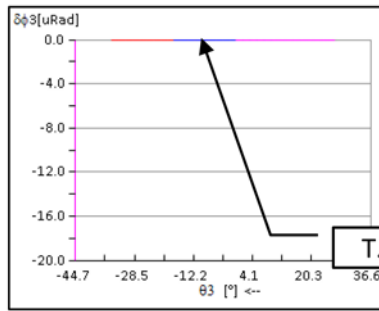
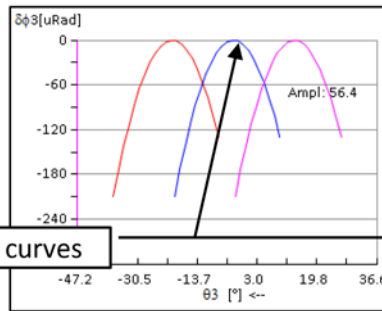
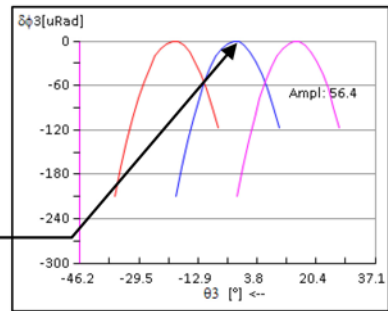

Figure 7 TE—basic gear set.
Figure 8 With modified roll.
Figure 9 0.2 mm C.D. change.
By definition, spurged gears are fully conjugate at mid-face. This means that in the absence of modifications to the profiles of the cutter blades, TE will be null. This is shown (Fig. 7), where three TE curves (blue, red and pink lines) are shown on the 0.0 line.
TE is desired in gear sets in order 1) to provide smooth motion transfer between meshing tooth pairs when subject to positional errors, and 2) to avoid excessive stresses at contact entry and exit. TE can be introduced in a number of ways. For example: 1) using blade deviations such as TopRem; 2) using circular cutter edges, or 3) using higher order changes, such as modified roll Eq. (7), on a CNC-controlled machine. The latter is the preferred method, as standard cutters can be used. Figure 8 shows the TE for the same gear set as that in Figure 7, but 2nd-order modified roll has been applied to provide relief at contact entry and exit.
Insensitivity to center distance change is a prime characteristic of spur gears. Spur gears behave similarly, since they are fully conjugate in the mid-face section of the tooth where the PoC is centered. In Figure 9, the center distance of the gear set of Figure 8 was increased from 37.86 mm to 38.06 mm — thus a 0.2 mm increase for a tooth whole depth of 2.5 mm and yet, no change in the TE can be noticed.